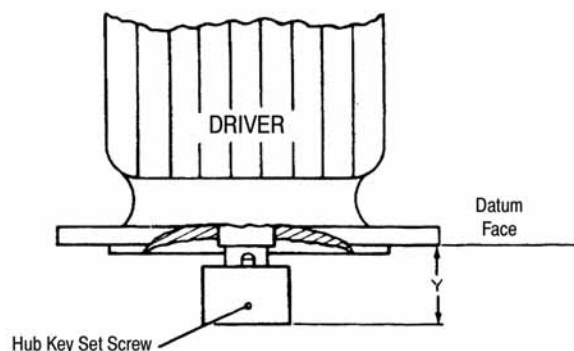

Figure 3. Driver Coupling Hub
- (c) Subtract the end gap value from the "X" dimension to determine the distance from the driver datum face to the coupling hub face ("Y" dimension - Figure 3). Scribe the shaft to show the "Y" dimension.